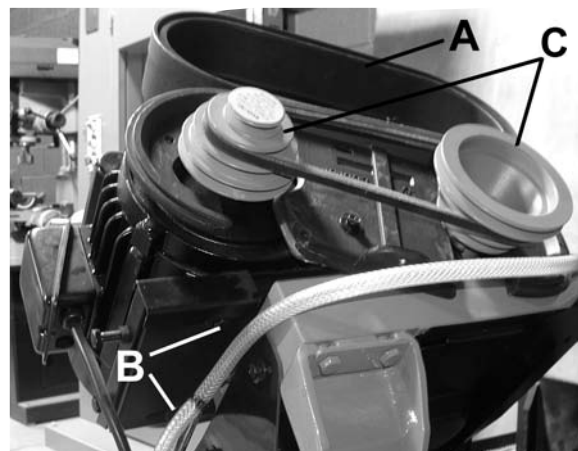

FIGURE 5
To adjust blade speed, the belt configuration on the pulleys must be changed. Open pulley cover (A) Fig.5 by removing lock knob.